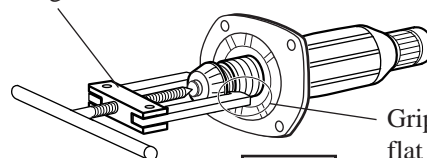

Fig. 1C
- (5) Disassemble spiral bevel gear 9 with No. 1R269 "Bearing extractor" as illustrated in Fig. 1C, if it is difficult to disassemble with hand.